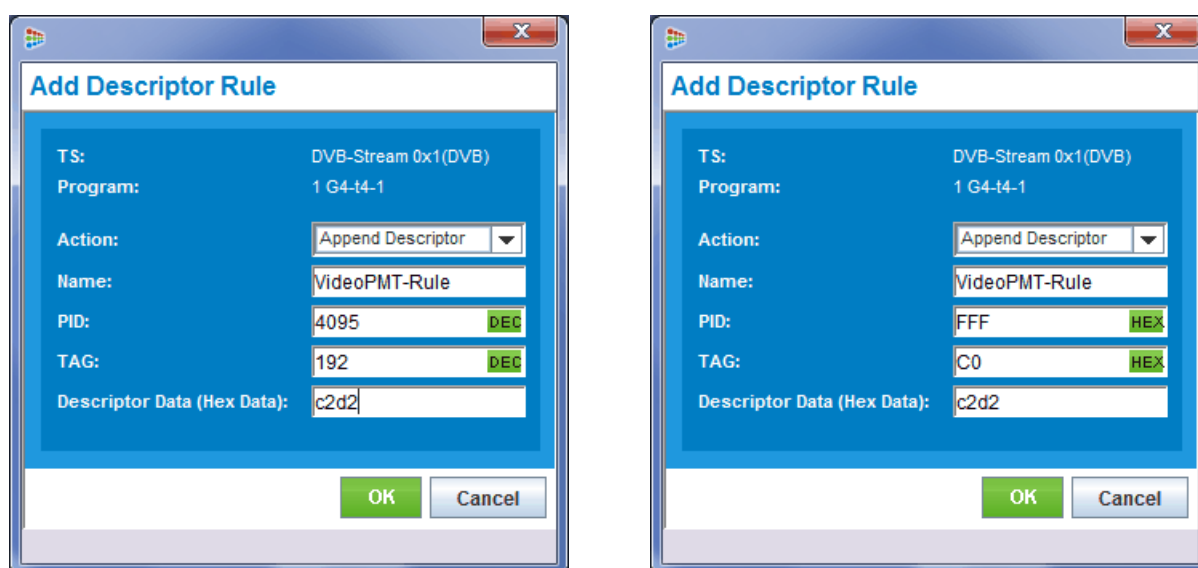

Figure 189. Add Descriptor Rule - DEC to HEX toggle
PID	<p>Specifies the PID of the stream. Valid range is from 0 to 8190. If the descriptor is a program descriptor, enter a value of 0. Otherwise, enter the elementary stream (ES) PID value; the descriptor rule is applied to this ES.</p> <ul style="list-style-type: none"> Clicking the green DEC button in this field will toggle the field from decimal to hex view. Clicking the green HEX button in this field will toggle the field from hex to decimal view. See Figure 189 for an example of the DEC to HEX toggle view.
TAG	<p>Specifies the TAG of the stream. First 8 bits of the descriptor packet as viewed from an MPEG analyzer.</p> <p>Valid range is from 0 to 255 (decimal) or 0 to FF (hex), up to 8 bits.</p> <ul style="list-style-type: none"> Clicking the green DEC button in this field will toggle the field from decimal to hex view. Clicking the green HEX button in this field will toggle the field from hex to decimal view. See Figure 189 for an example of the DEC to HEX toggle view.
Figure 189 shows an example of the DEC to HEX toggle view in the **Add Descriptor Rule** window.